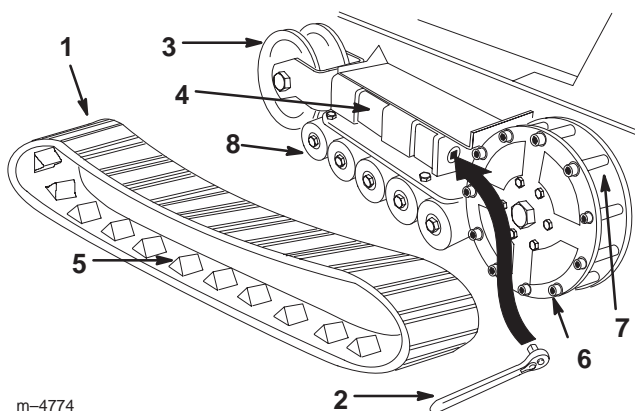

Figure 37
5. Push the tension wheel toward the rear of the unit to move the fork tube against the frame (Fig. 37). (If it does not touch the frame, continue turning the tensioning screw until it does.)
7. When the track is off of the tension wheel, remove it from the drive sprocket and road wheels (Fig. 37).
8. Beginning at the drive sprocket, coil the new track around the sprocket, ensuring that the lugs on the track fit between the spacers on the sprocket (Fig. 37).
9. Push the track under and between the road wheels (Fig. 37).